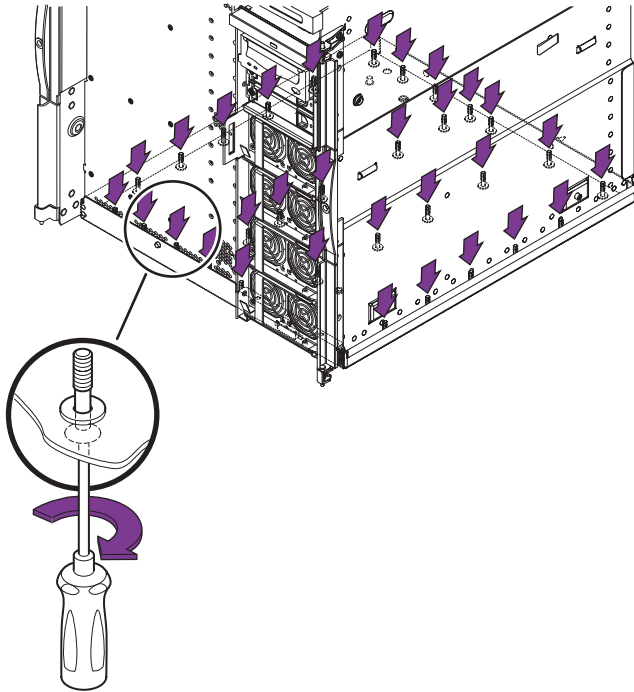

FIGURE 13-2 Removing the Baseplane Securing Screws
16. From beneath the system, loosen 30 of the 31 captive screws securing the baseplane to the chassis (FIGURE 13-2). Leave the screw at the center of the front secured.
- If the system does not have a plunger (release button), loosen the center front screw (FIGURE 13-2). Keep one hand under the baseplane while loosening the center front screw. Go to Step 18.